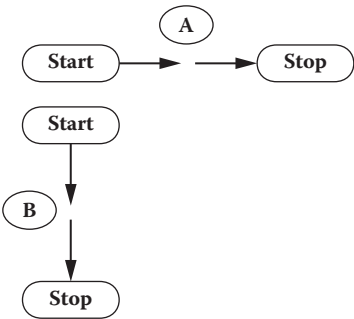

Figure 6.4 Keep the flow (a) left to right or (b) top to bottom.
2. Keep the flow of the work from left to right **or** top to bottom (Figure 6.4).